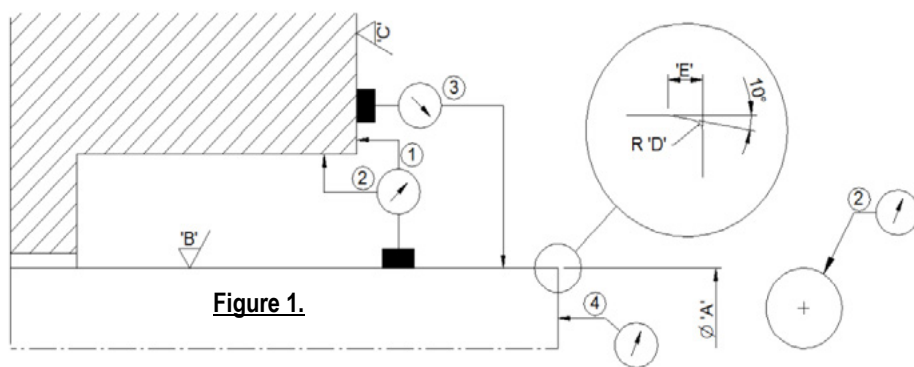

Figure 1.
1. Check machine as shown in Figure 1 (See page 2).